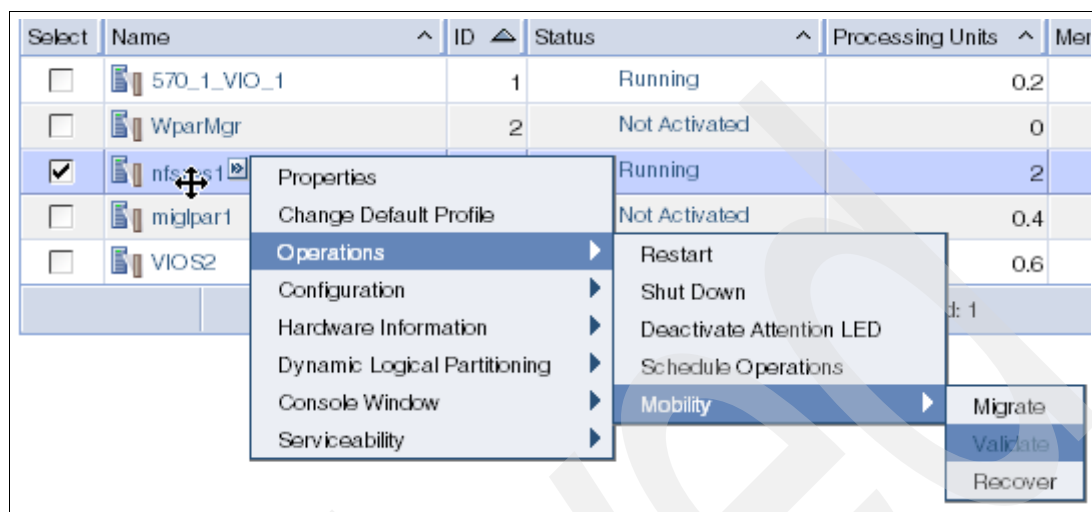

Figure 6-26 Validating the partition mobility
- Perform a validation by selecting **Managed Server**, which lists the valid partitions. Select a partition. Click the pop-up arrow icon. Click **Operations** → **Mobility** → **Validate**, as shown on Figure 6-26.
Figure 6-26 on page 212 shows these steps using an HMC instead of the SDMC.